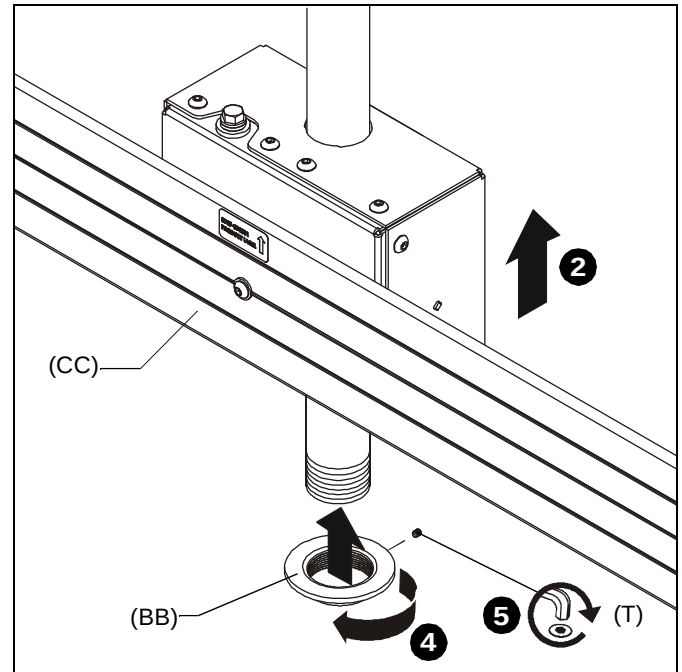

Figure 2
2. Slide ceiling mount (CC) up from below onto installed column (not included). (See Figure 2)
4. Thread bottom coupling (BB) onto installed column until tight, with a minimum of four threads engaged. (See Figure 2)
5. Install and tighten one 10-24 x 1/4" set screw (T) into bottom coupling (BB). (See Figure 2)